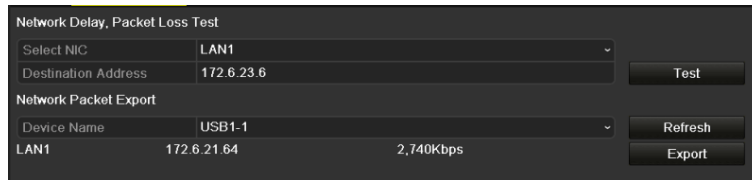

Figure 12-28 Export Network Packet
Step 3 Select the backup device from the dropdown list of Device Name, as shown in Figure 12-28.